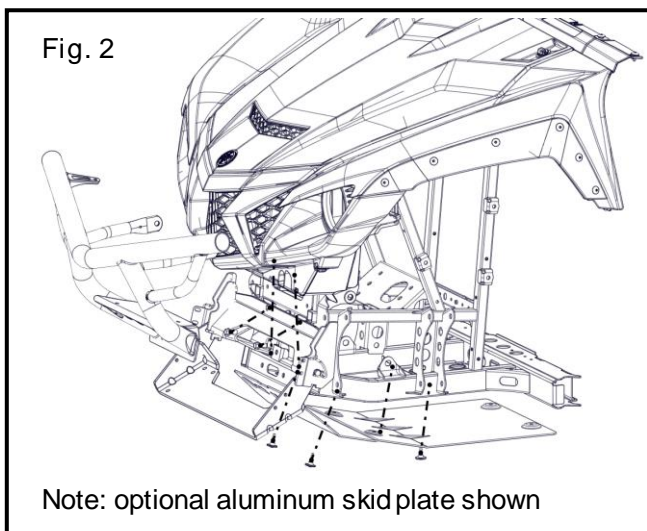

Fig. 2
2. Remove front skid plate, front grab bar and winch if installed. Retain all OE hardware for reinstallation. (Fig. 2)